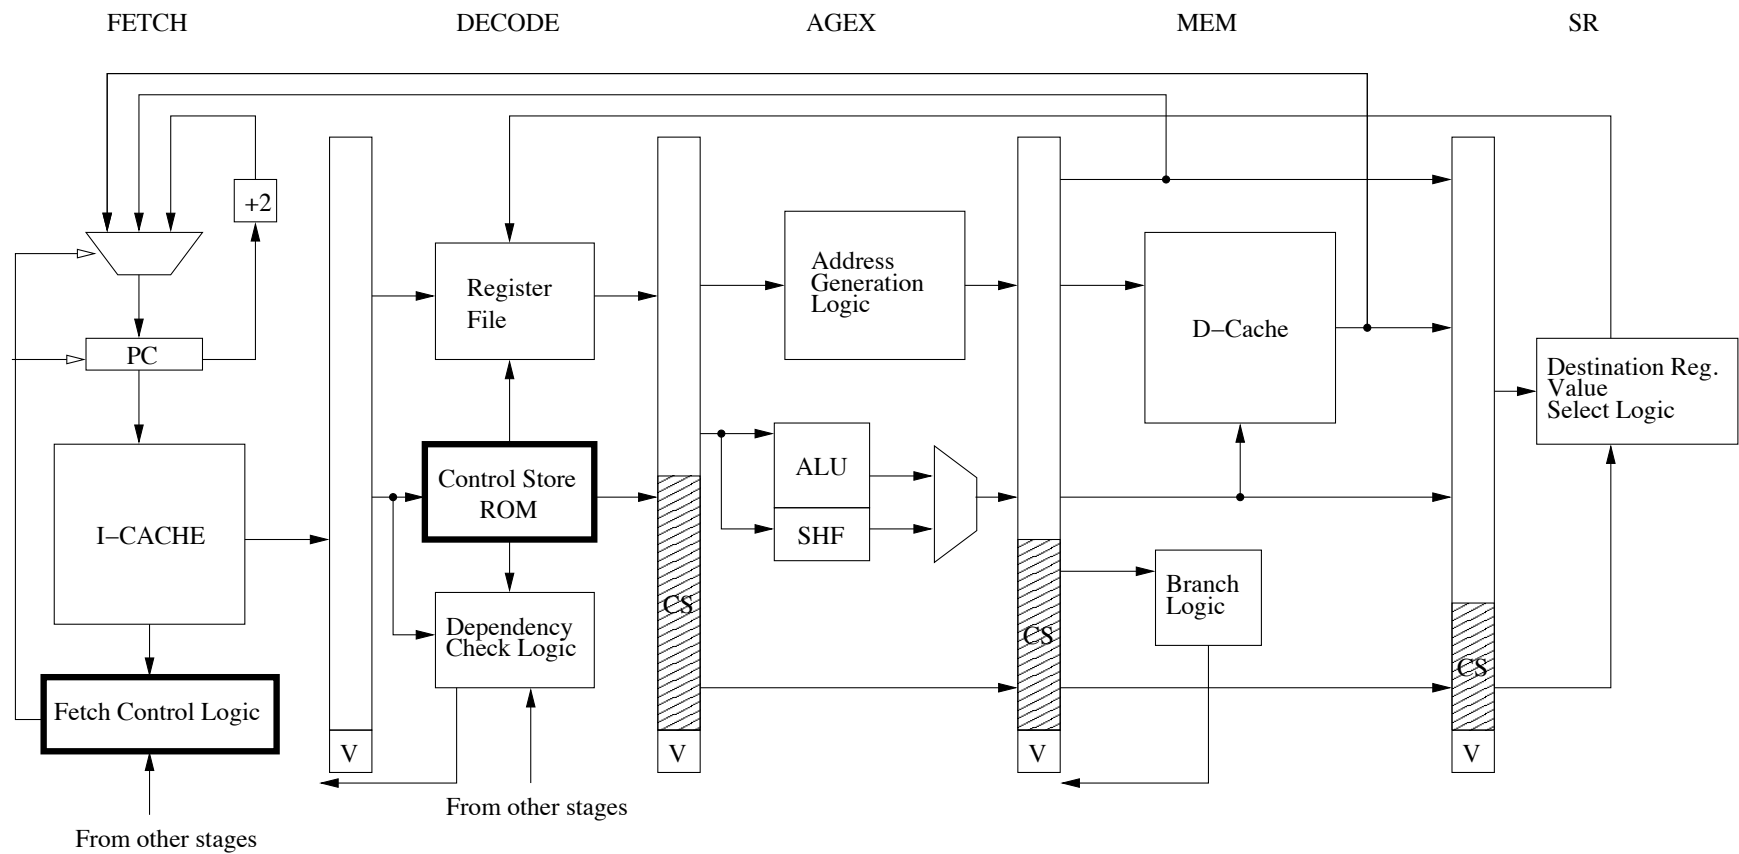

Fig.1 LC-3b pipeline diagram
In Lab 3, you will implement a pipelined version of the LC-3b. The pipeline for the LC-3b has five stages: Fetch (F), Decode/Register Read (DE), Address Generation/Execute (AGEX), Data Memory Access (MEM), and Store Result (SR). Between each stage, there are pipeline latches that are used to propagate data through the pipeline every cycle (see Figure 1). The main logic components of each stage are shown in Figures 2-6. You will need to implement each stage as shown in these figures. Some logic blocks in the figures are labeled “LOGIC.” The outputs of these blocks are shown in the figure, but the inputs to some of these blocks are omitted. It is your job to figure out the inputs to these blocks and the implementation of the logic inside the blocks. All of these blocks, including the “Dependency Check Logic,” generate outputs that control the stalling of the pipeline and the insertion of pipeline “bubbles”.